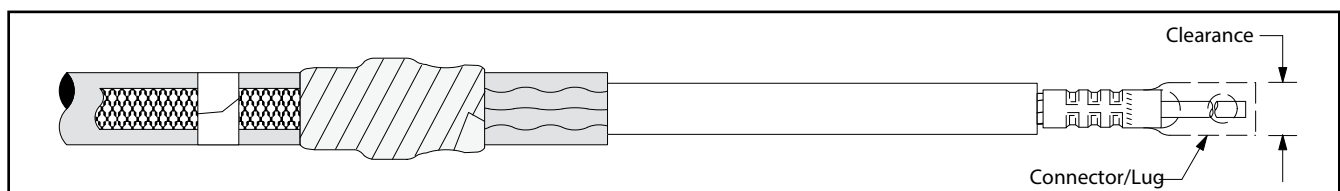

Figure 23
14.1 Check to insure 3M™ Cold Shrink QT -III Silicone Rubber Termination fits over the selected lug or connector. If lug or connector (Figure 23) will not fit through the termination core, clean the insulation (per Step 15.0) and slide termination on cable before installing lug or connector. **DO NOT REMOVE CORE AT THIS TIME.**